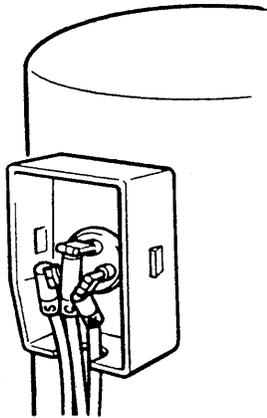

Figure 70. Compressor Connections
2. Identify and remove the three wires from the inside of the compressor electrical box (Figure 70).